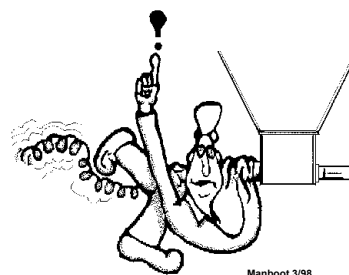

**Figure 54. Auger and Anchor Bearing Connection**
If the system must be disassembled, extreme caution must be used to prevent injury from springing auger. Refer to **Figure 54**.
1. Insert the Anchor Assembly into the auger, guide the tip of the auger between the two roll pins in the center of the anchor. Continue to guide the auger until the tip of the auger hits the flat washer. Tighten the setscrews in the center of the anchor until they touch (See **Figure 54**.)